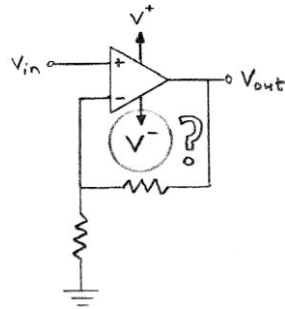

Figure 7-30. How do you supply negative volts?
**Negative voltage** (e.g.  $-0.5\text{V}$ ) just means that the current runs the other way (recall that conventional current runs from higher voltage to lower voltage). If you reverse the voltmeter leads on a fresh 9V battery, the voltmeter will read  $-9\text{V}$ , instead of  $+9\text{V}$ . However, seeing a negative voltage for the first time on a circuit diagram can be a little mystifying. Where do these negative volts come from? How can you use them? What if you can't tie the  $V^-$  terminal of an op-amp to ground, because you would like it to work with a negative voltage? How do you supply negative volts, depicted in Figure 7-30? There are different approaches to answering this question.